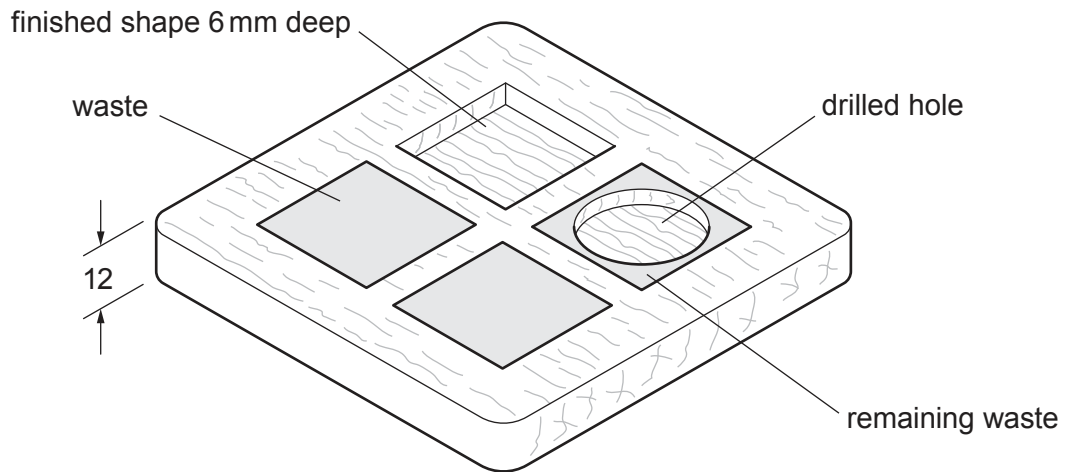

Fig. 11.4
- (c) Fig. 11.4 shows details of the shapes to be cut out of the base of the pen and pencil holder. A drill bit has been used to remove most of the waste wood in one of the shapes.